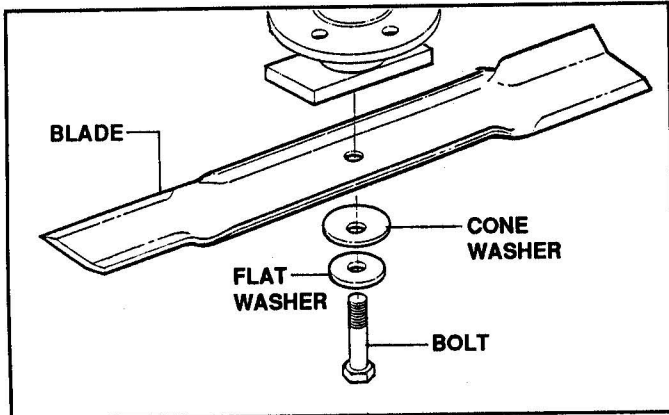

FIGURE 4.19
2. Remove blades. See Figure 4.19.
6. Reinstall blades. Refer to Figure 4.19. Torque blade mounting bolts to 50 ft. lbs.
1. Remove blades. Refer to Figure 4.19. Replace both blades even if only one shows signs of excessive wear or damage.